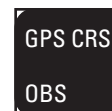

Figure 5-113
2. Change the position of the external switch. In the case of the combination switch/annunciator all that you have to do is press the switch and it will change modes (figure 5-113).